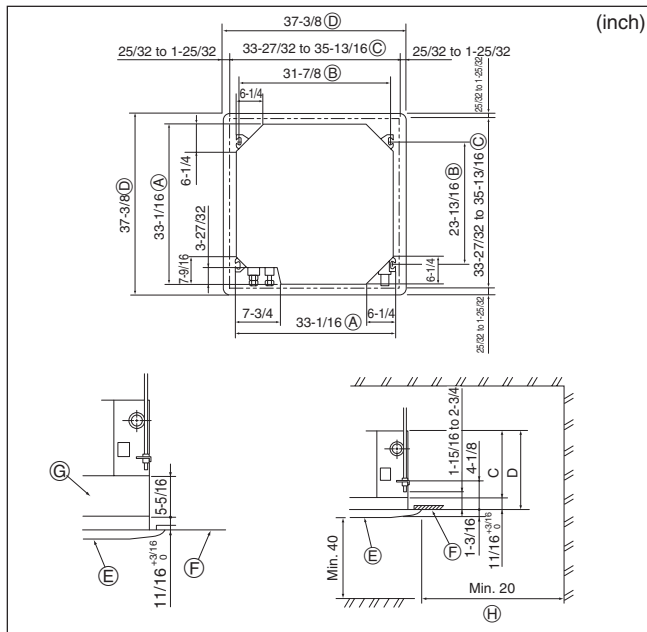

Fig. 3-2
④ Band	8
⑤ Screw with washer (M5 × 25) for mounting grille	4
⑥ Drain socket	1
⑦ Insulation	1
3.2. Ceiling openings and suspension bolt installation locations (Fig. 3-2)
- ① Outer side of main unit
- ② Bolt pitch
- ③ Ceiling opening
- ④ Outer side of Grille